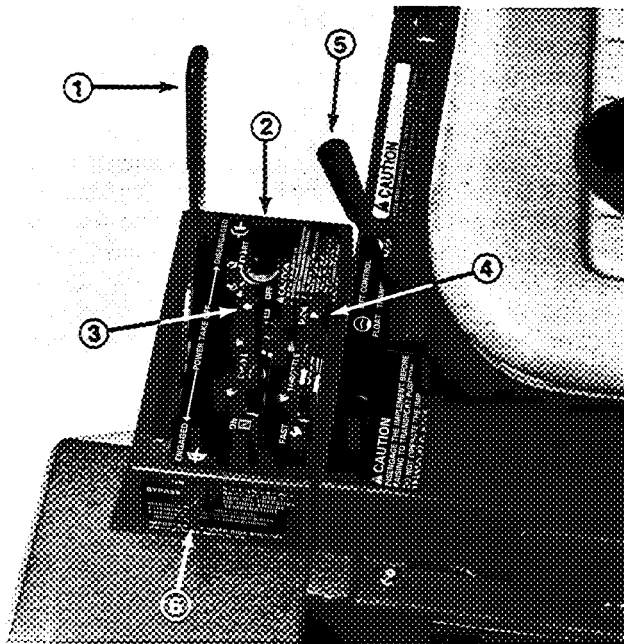

Figure 14
**PTO Lever** (Fig. 14) — The PTO lever has two positions: ENGAGE and DISENGAGE. Push PTO lever fully forward to ENGAGE position to start the cutting unit blades. Pull lever rearward to DISENGAGE position to stop the blades. The only time PTO lever should be in the ENGAGE position is when cutting unit is on the turf and grass is actually being mowed.
**Ignition Switch** (Fig. 14) — The ignition switch, used to start and stop the engine, has three positions: OFF, RUN and START. Rotate key clockwise — START position — to engage starter motor. Release key when engine starts. The key will move automatically to the ON position. To shut engine off, rotate key counter-clockwise to the OFF position.
**Low Oil Pressure or High Cylinder Head Temperature By-Pass Switch** (Fig. 14) — Overrides engine Low Oil Pressure or High Cylinder Head Temperature shut off switches and allows engine to be operated when switch is held in on position. Avoid prolonged operation of engine using by-pass switch as engine damage may occur.
**Choke** (Fig. 14) — To start a cold engine, close carburetor choke by moving choke control forward to the ON position. After engine starts, regulate choke to keep engine running smoothly. As soon as possible, open the choke by pulling it rearward to the OFF position. A warm engine requires little or no choking.
**Throttle** (Fig. 14) — Throttle is used to operate engine at various speeds. Moving throttle forward
**Hydraulic Lift Lever** (Fig. 14) — The hydraulic lift lever has three positions: FLOAT, TRANSPORT and RAISE. To lower cutting unit to the ground, move lift lever forward into notch in seat cover — FLOAT. The FLOAT position is used for mowing and when machine is not in operation. To raise cutting unit, pull lift lever rearward to the RAISE position. After cutting unit is raised, allow lift lever to move to the TRANSPORT position. Cutting unit must be raised when driving from one work area to another.